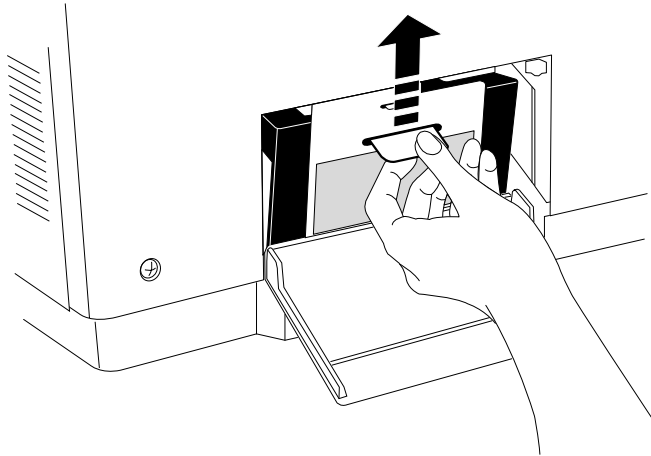

Fig. 6.5 *Lift up on Waste Toner Pack*
6. Holding the new waste toner pack by the side tab on the top, insert the pack into the printer until it fits securely. Then, lift up slightly on the tab to be sure the pack is level and centered (fig. 6.5).